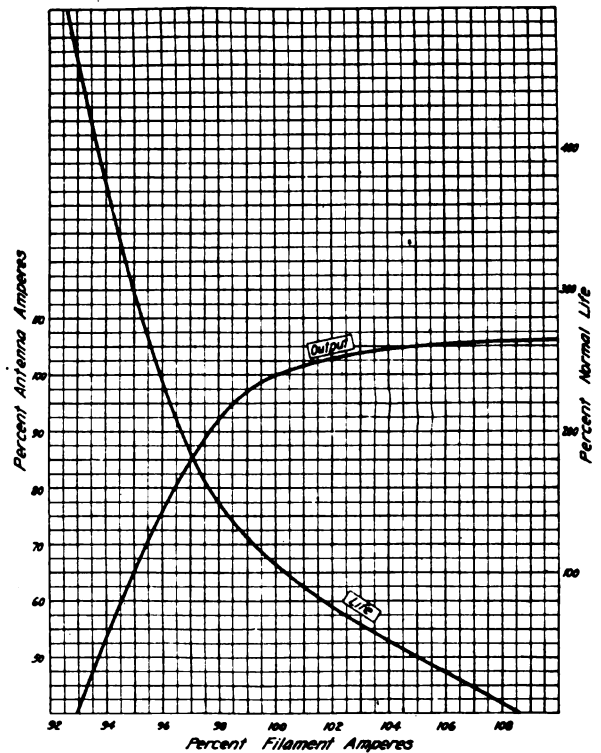

Figure 17—Radiation current for a 5-watt tube in an oscillating circuit plotted against filament amperes
figure 17, which shows the variation of high frequency output current (radiation current), for a 5-watt tube in a typical oscillating circuit, plotted against filament amperes. At low filament temperatures the output is entirely limited by the electron emission whereas beyond a certain point increased emission does not appreciably increase the output, which becomes limited by other factors in the tube. A life curve with filament current is plotted on the same sheet and shows that, in order to gain an increase of 5 per cent. above rated output by filament temperature increase alone, the life is decreased to approximately 40 per cent. of the normal.
(1) Do not materially raise the filament current to get a small increase of output. The curves of figure 17 show the poor economy of this. Considering operation over a period of one year it would be more economical to operate conservatively two tubes in parallel and get even a greater output than from the one running with an excess filament temperature.
(2) For long tube life the best circuit adjustment is